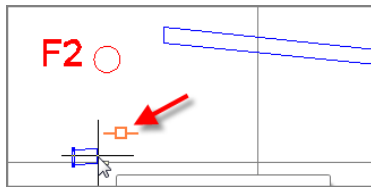

FIGURE 15.10 A glyph indicating the proper connection of a pipe to a fitting
5. In the upper-right viewport, place your cursor near the right end of the short pipe segment located just below the red circle. When the glyph appears, as shown in Figure 15.10, click the pipe. Click **Counterclockwise** on the command line.
9. Click **Add Bend**; then click the end of the newly created pipe, making sure the proper glyph is displayed, as previously shown in Figure 15.10. Click **Clockwise** on the command line to invoke the **Clockwise** option. Another 45° bend is created.